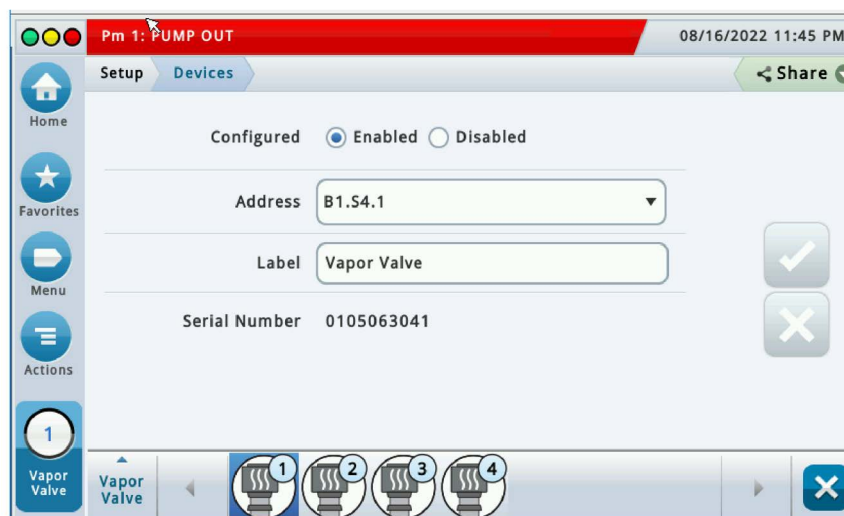

Figure 9. Example Vapor Valve Completed Setup Screen
3. Notice after saving the Vapor Valve serial number is now visible (see Figure 9).